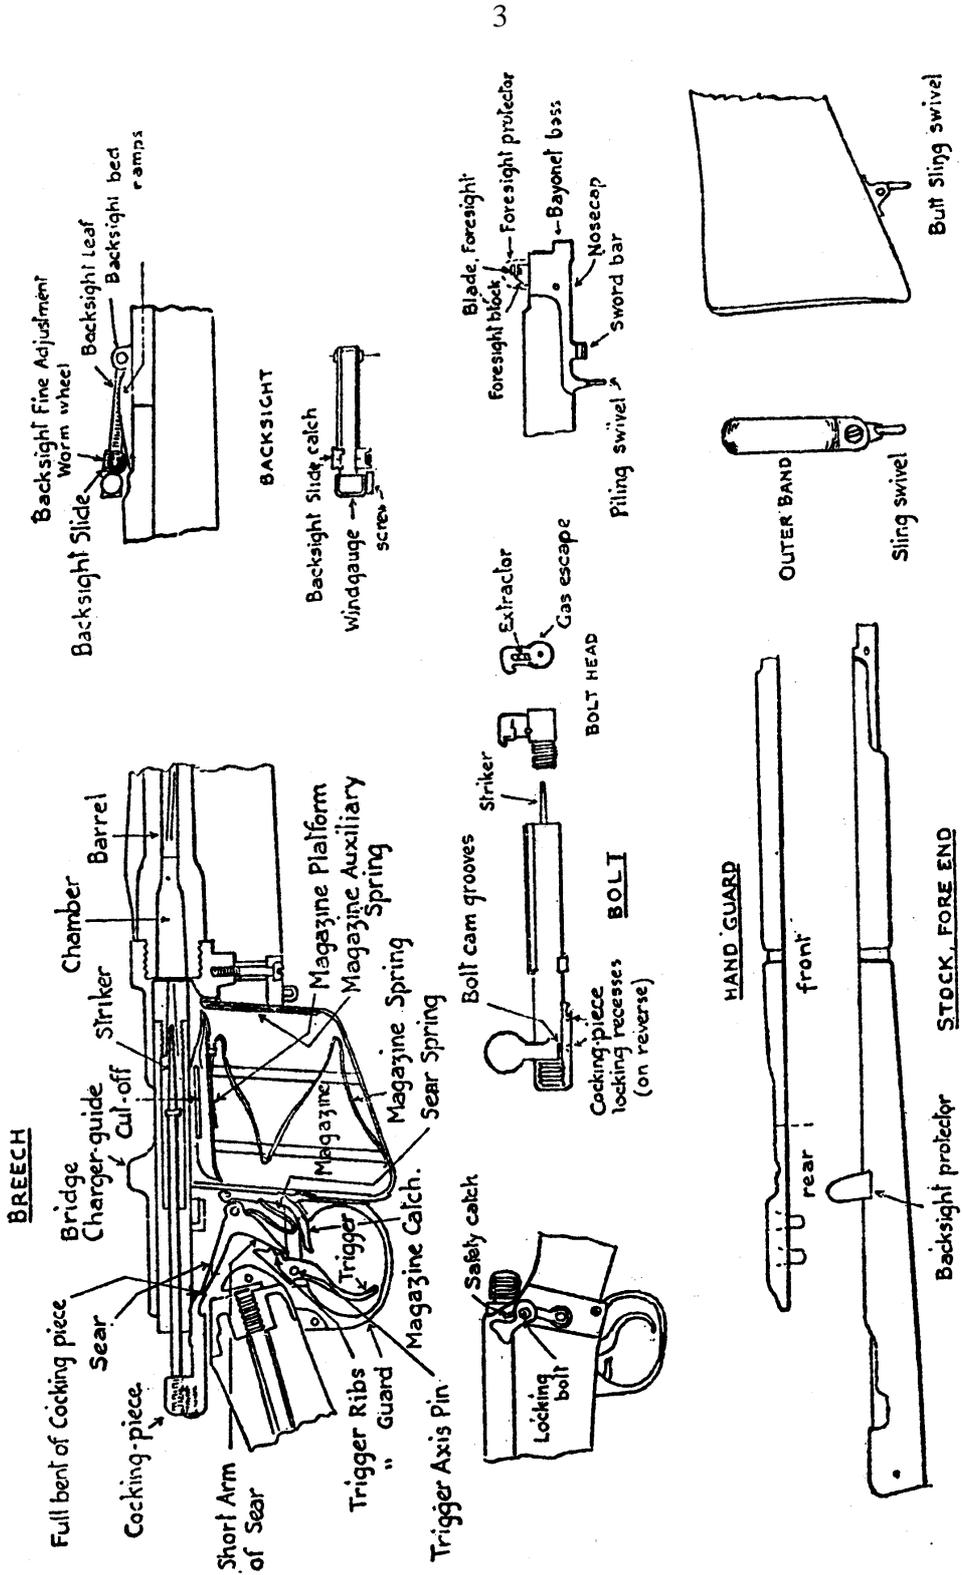

FIG. 1.
*Name all parts of the rifle as dealt with. This applies to all rifle instruction (see Fig. 1).*